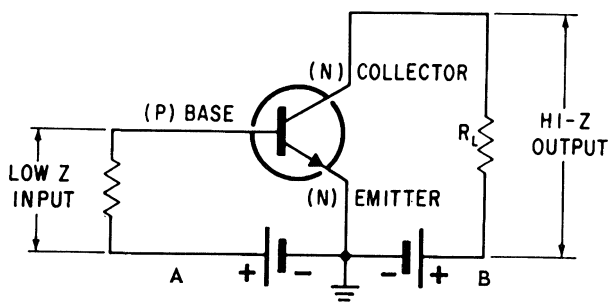

FIG. 1-9
In order to explain the action of a transistor as an amplifier, we will consider it as two separate diodes. For amplification purposes the base emitter diode (BE) must be forward biased; while at the same time the base collector diode (BC) must be reverse biased and at a higher voltage. A simplified transistor amplifier circuit is shown in Figure 1-9.